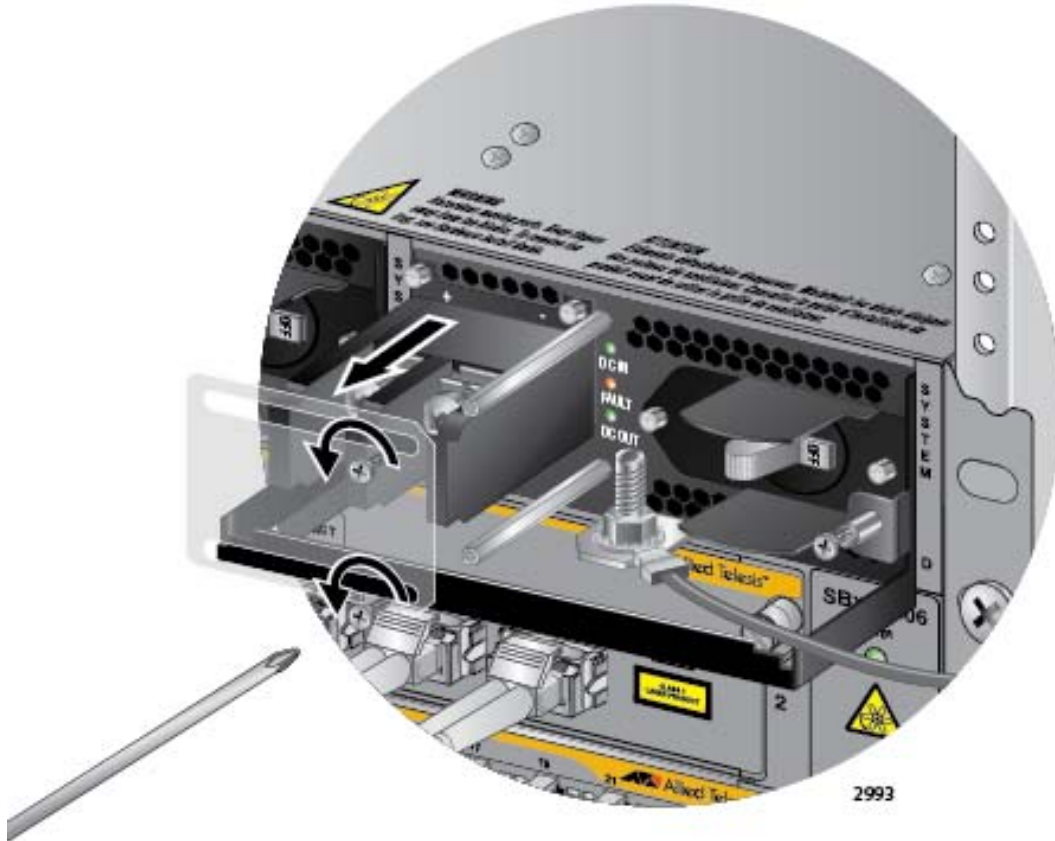

Figure 118. Removing the Plastic Cover
4. Using a #1 Phillips-head screwdriver, remove the two screws that secure the plastic cover over the positive and negative terminals and remove the plastic cover from the power supply, as shown in Figure 118. You may need to lift the locking handle slightly to access the bottom screw.